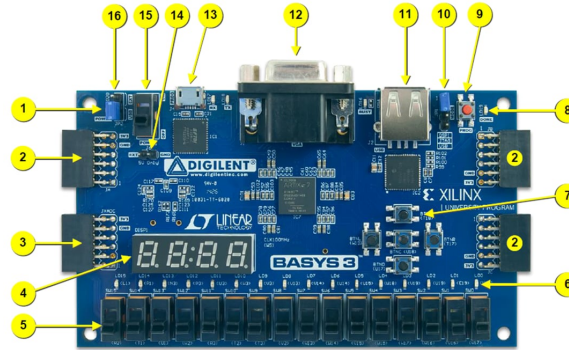

Figure 1. Basys 3 FPGA board with callouts.
- Push-buttons; to select addition/subtraction/multiplication/division/reset (see Callout 7 of Fig.1)
- LEDs; to display raw binary data from early design phase (see Callout 6 of Fig.1)
- 7-segment display; for displaying results (see Callout 4 of Fig.1)